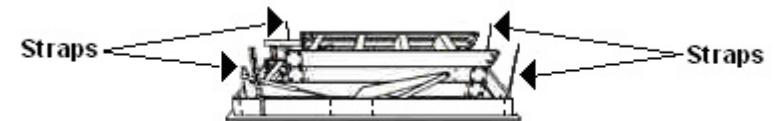

Figure 3
2. Install metal support straps to the folding attic ladder (See Figure 3 on this page) prior to lifting folding attic ladder into rough opening.
- C. Using the nails (clouts) and straps provided, fit straps to pre drilled holes as marked in figure 3 above.